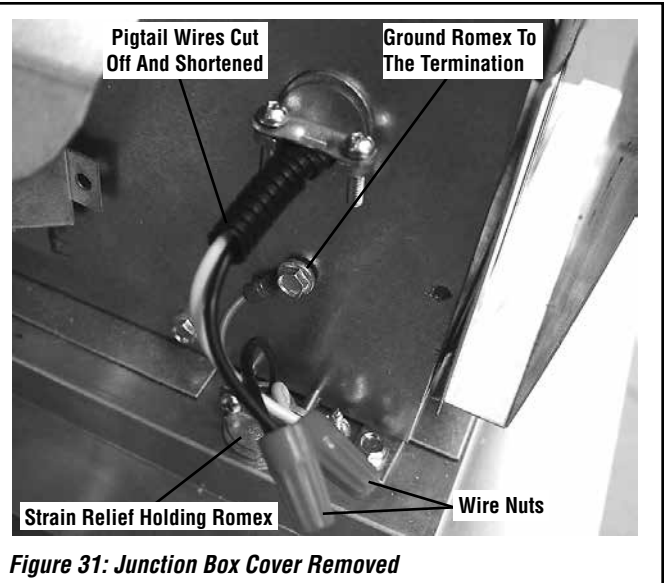

Figure 31: Junction Box Cover Removed
4. Connect the black power supply wire to the **power outlet's** red pigtail lead and the white power supply wire to the **common** terminal of the outlet as shown in Figures 31 and 32.
- Refer to Figure 31 to connect the three wires of the Romex cable to the termination. Ensure the ground ring terminal is grounded beneath a structural screw as shown. Attach the junction box cover to the termination with the screw previously removed.